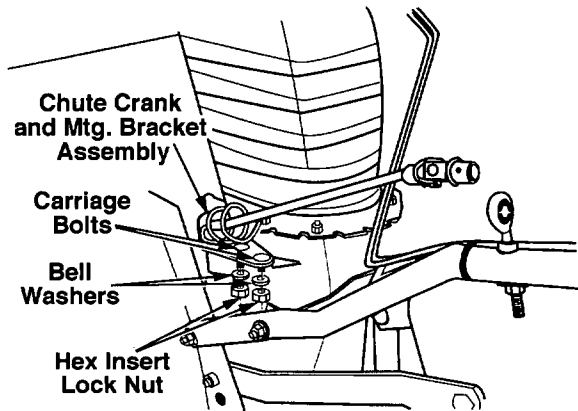

Figure 7
- Position the chute crank/mtg. bracket assembly (1-7) on the mounting flange (on the left side of the chute adapter) so that the spiral of the chute crank engages the teeth of the discharge chute (1-2). Fasten the chute crank mtg. bracket (1-7) with the two carriage bolts (2-9), bell washers (2-10), and hex insert lock nuts (2-21). Do not completely tighten the hardware now. Refer to Figure 7.